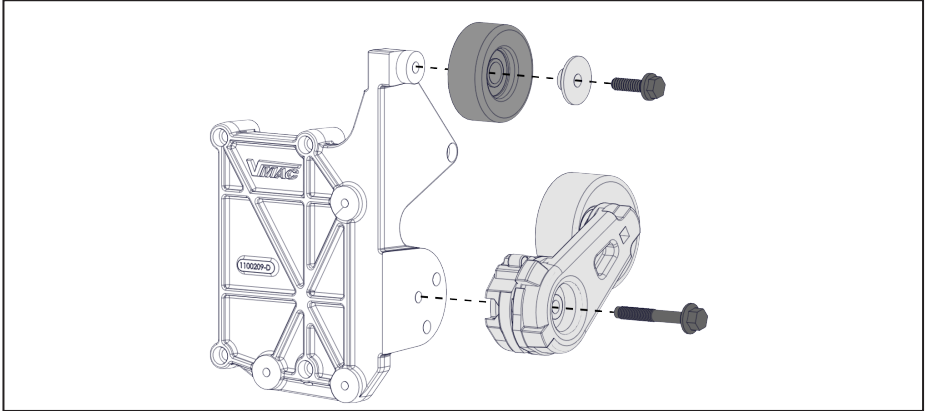

Figure 9 — VMAC main bracket assembly
- Remove the idler and tensioner from the VMAC main bracket (Figure 9).